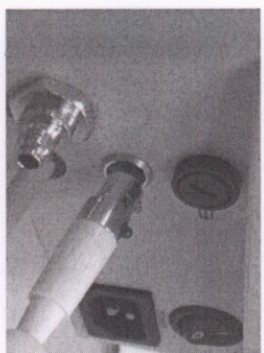

Figure 2
3. Matching the 3-pin connection, firmly plug in the foot pedal's electrical cord into the  location at the rear of the base (Figure 2).